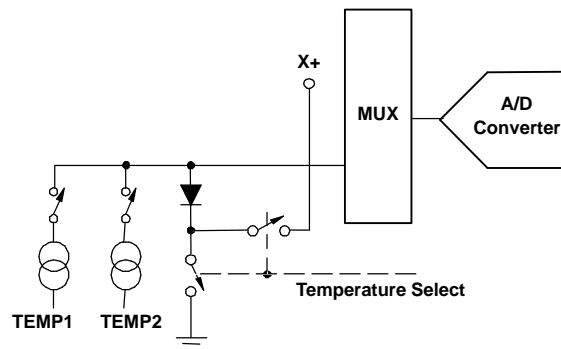
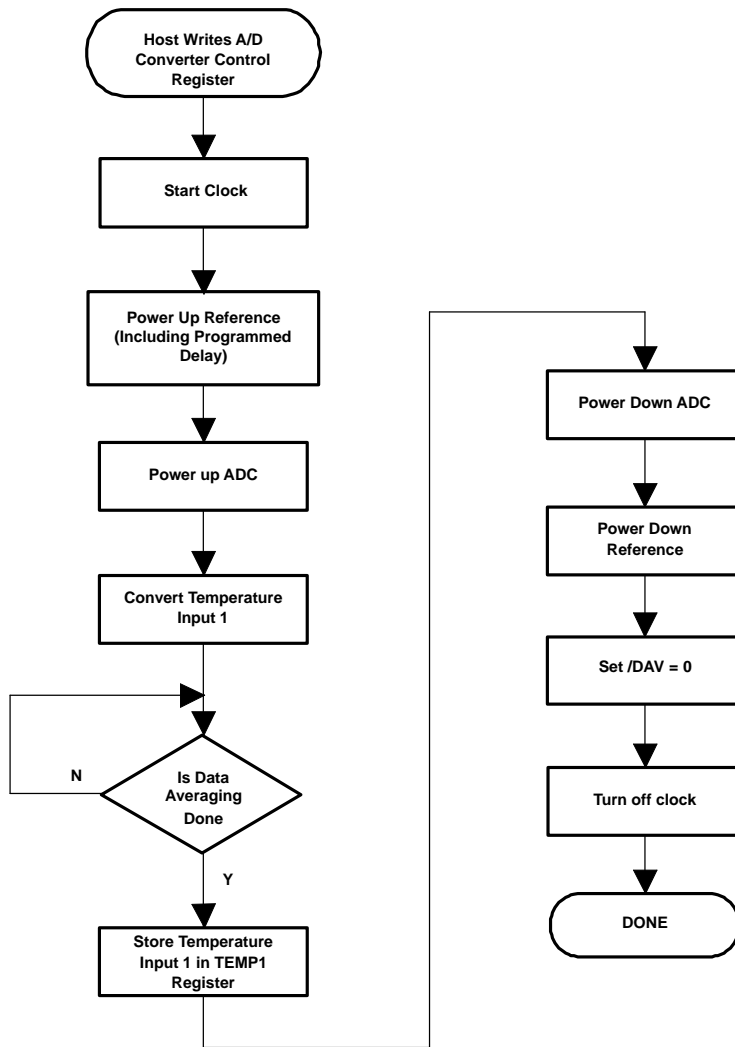

Figure 61. Functional Block Diagram of Temperature Measurement Mode
Figure 62. Single Temperature Measurement Mode
The TSC2301 offers two modes of temperature measurement. The first mode requires calibration at a known temperature, but only requires a single reading to predict the ambient temperature. A diode, as shown in Figure 61, is used during this measurement cycle. The voltage across this diode is typically 600 mV at 25°C while conducting a 20- μ A current. The absolute value of this diode voltage can vary several millivolts, but the temperature coefficient (TC) of this voltage is very consistent at -2.1 mV/°C. During the final test of the end product, the diode voltage would be measured by the TSC2301 ADC at a known room temperature, and the corresponding digital code stored in system memory, for calibration purposes by the user. The result is an equivalent temperature measurement resolution of 0.3°C/LSB. This measurement of what is referred to as Temperature 1 is illustrated in Figure 62.